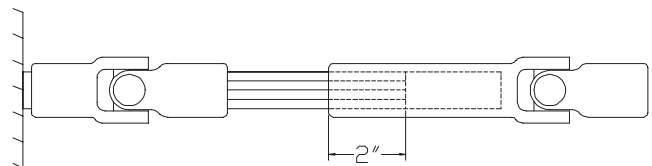

Figure 1
4. Align and insert the traction unit PTO splined shaft into the broom PTO receiver (Fig. 1).
Important Ensure 2 inches of PTO shaft engages with implement shaft (Fig. 1). If not, the implement shaft must be replaced with the appropriate length of shaft available from the Toro Parts Department.